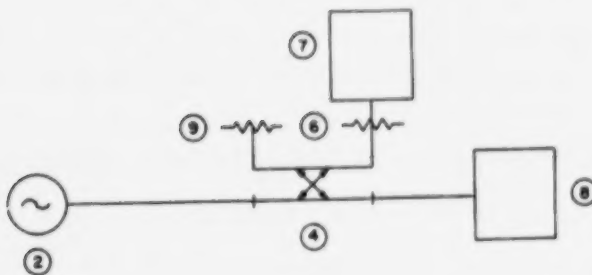

Figure 3c.
4. Replace the standard power meter with the Model 42BD (8). (See Figure 3c.) With generator (2) set at the same frequency as in Step 1, adjust the generator output level until the Model 42 (7) reads the same value as recorded in Step 3. Record the indicated power reading on the Model 42BD (8) as P_{ind_2} .